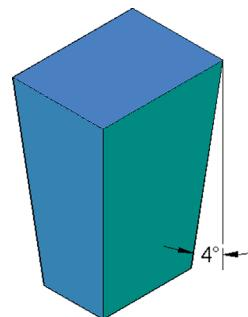

FIGURE 24.19 Wastebasket, Step 2.
Step 2. Taper the block on all four sides to 4° , as seen in Fig. 24.19.